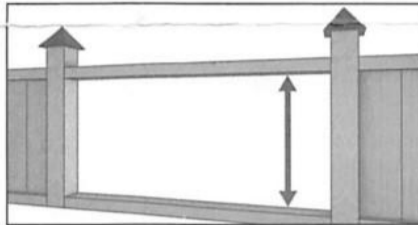
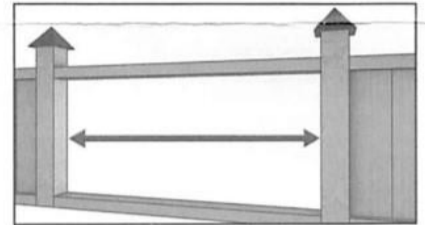
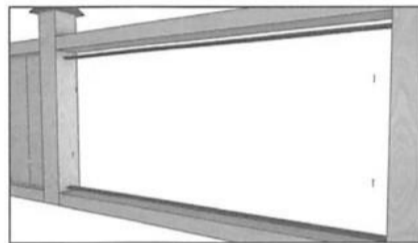

Figure 1
Figure 2
Figure 3
**STEP 1** Determine if you wish to install your **FLEX·fence**® as either vertical (*Figure 1*) or horizontal (*Figure 2*) panels.
**STEP 2** Fit rails onto top and bottom (*Figure 1*) crossbar or fence post (*Figure 2*). Using a marking instrument denote rail placement ensuring that they are well centered and the pre-punched swivel holes are directly opposite to one another (*Figure 3*).
**NOTE:** You may wish to use our location holes for position purposes during the installation (figures 3 & 3A).